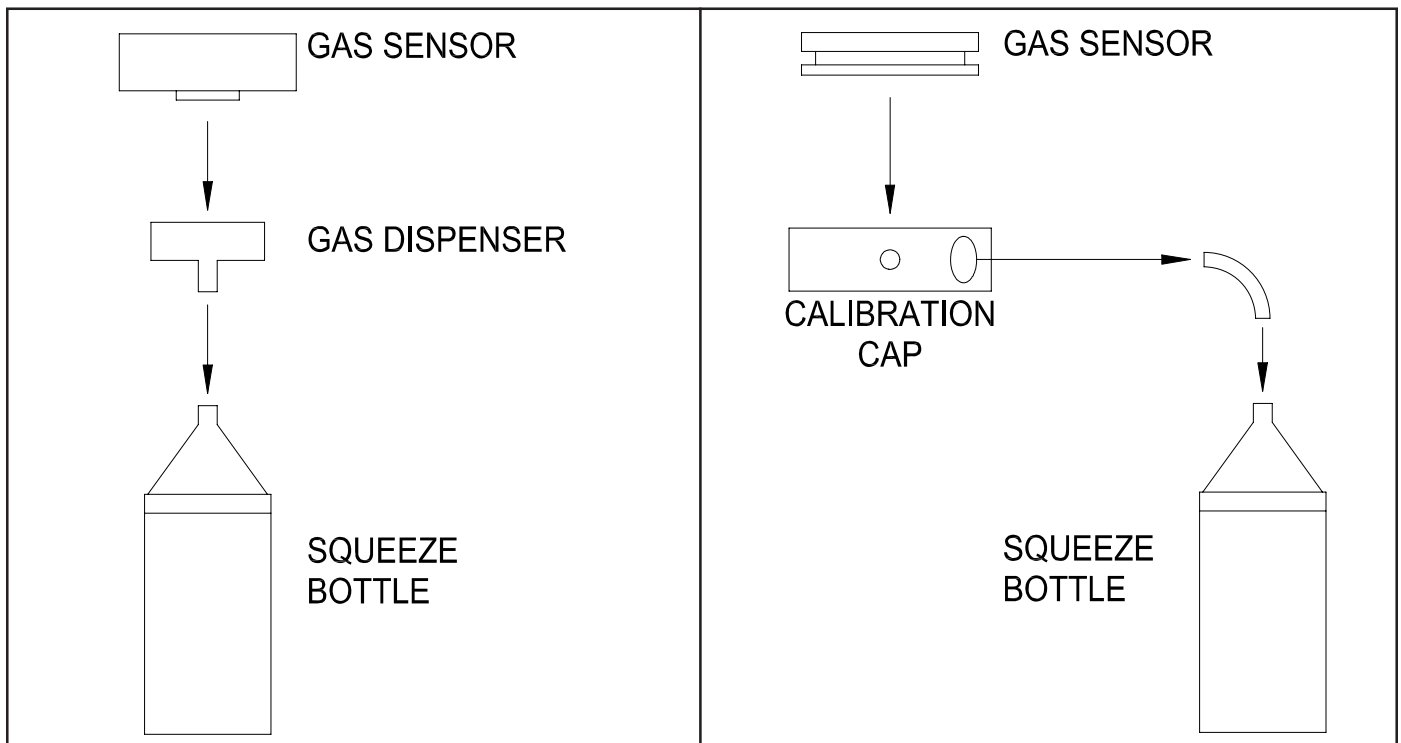

Figure 9 - System Test Method
- To generate sulfur dioxide, repeat steps 3 and 4 above, then place one (1) sodium metabisulfite tablet into the bottle. Carefully shake the bottle to mix.
- 6. Tighten the tapered cap on the squeeze bottle, and place the gas dispenser on the squeeze bottle's tapered spout. Refer to Figure 9.
- 7. Place the dispenser over gas detector sensor. Refer to Figure 9.